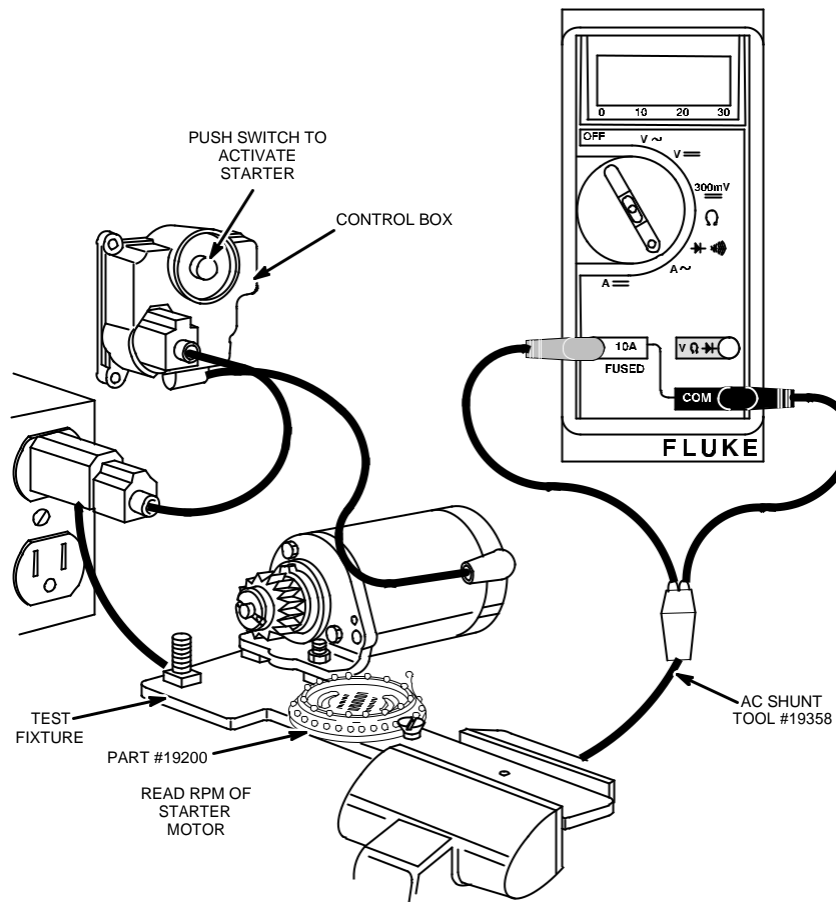

Fig. 697 – TESTING 120 VOLT AC STARTER – DIGITAL MULTIMETER
2. Insert leads into meter and plug starter motor cord into AC shunt, Fig. 697.